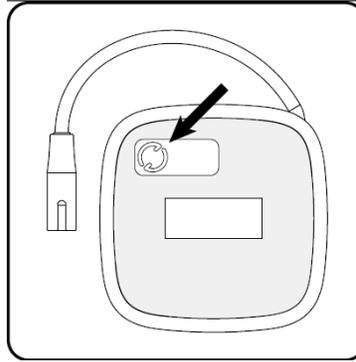

Figure 2: Activate the TS by pressing the button on the back of the stimulator
1. Press the button on the back of the TS (**Figure 2**). The green light next to the button will start to flash. The green light will flash for 90 seconds.
- If there is no flashing light when you press the button, try pressing the button again. Confirm you are pressing the button as shown in **Figure 2**. If there is no light after multiple attempts at pressing the button, do not use this TS. Activate a new TS. If the issue persists with a new TS, contact Axonics.